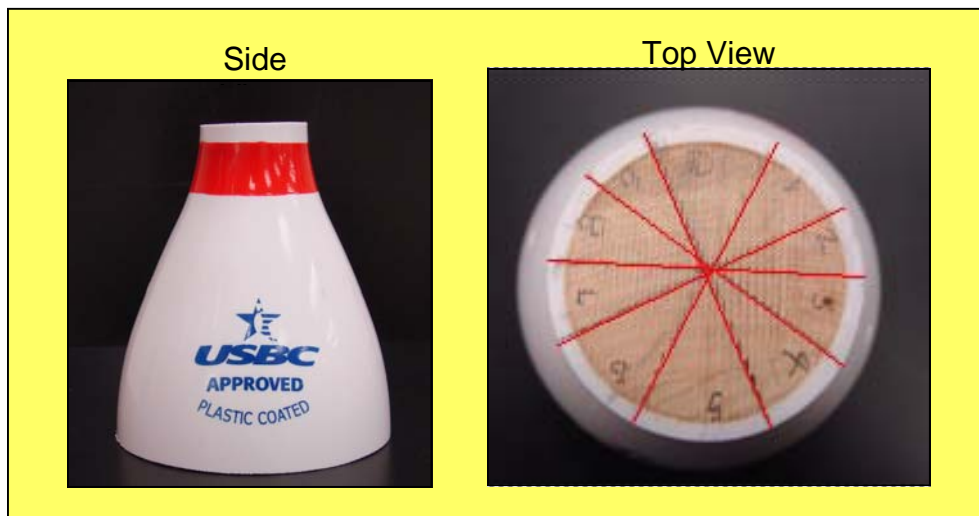

Figure 3 - Side and top view of the upper ball zone segment of the bowling pin. The top view shows the 10 divisions drawn on the segment for later analysis.
- Set the upper ball zone segment of the bowling pin on a work surface and draw 10 “pie slices” on the top of the segment and number each section 1-10 with the pencil and straight edge as seen in figure 3.